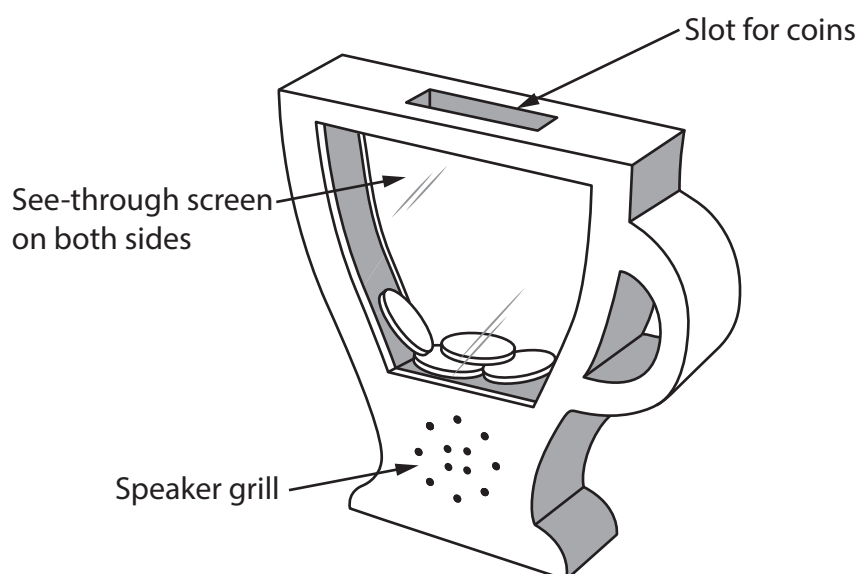

Figure 7
- (b) Figure 7 shows a money box in the shape of a tea cup that plays a tune every time a coin is dropped in the slot.